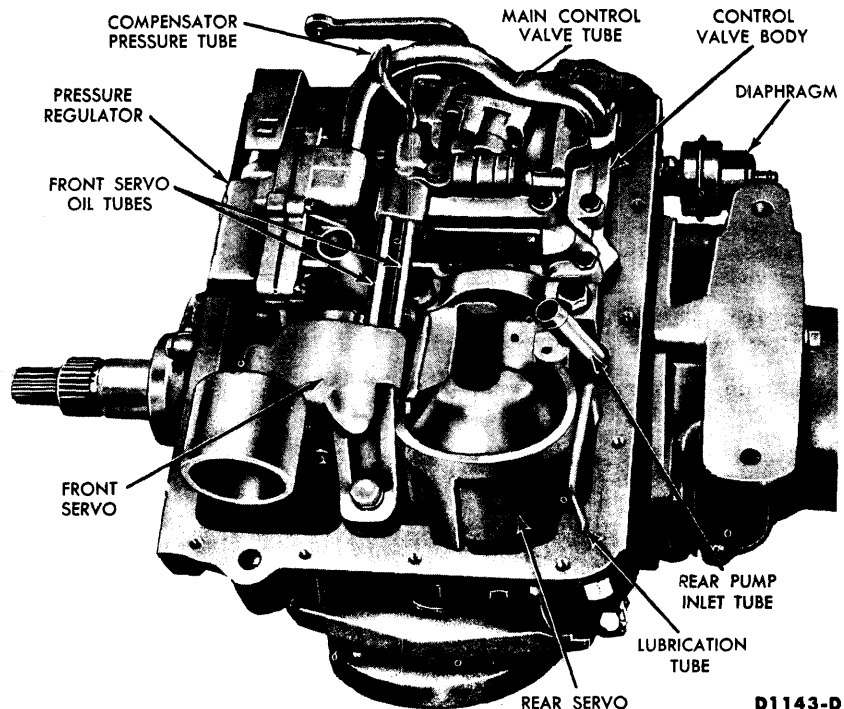

FIG. 16—Typical Hydraulic Control System Parts
6. Remove the two tubes which connect to the pressure regulator and the control valve body (Fig. 16).
8. Remove the three control valve body attaching bolts, and lower the valve body while pulling it off the front servo oil tubes (Fig. 16). **Be careful not to damage the valve body or the tubes.**
2. Remove the small compensator pressure tube and the large control pressure tube from the control valve body and the pressure regulator (Fig. 16).
4. Remove the attaching bolts from the front servo (Fig. 16), hold the strut with the fingers, and remove the servo.